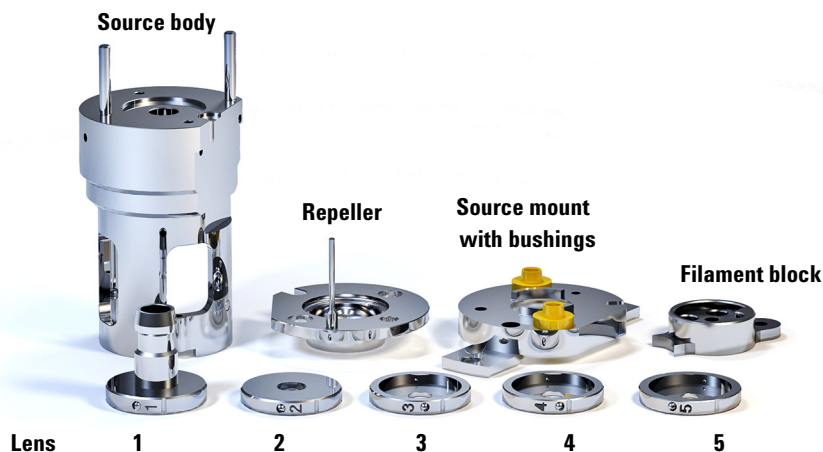

Figure 50 EI HES parts to be cleaned
- 2 Collect the following parts to be cleaned: (See Figure 50 on page 161.)
- Extractor lens (5)
- Post extractor lens 1 (4)
- Post extractor lens 2 (3)
- Ion focus lens (2)
- Entrance lens (1)